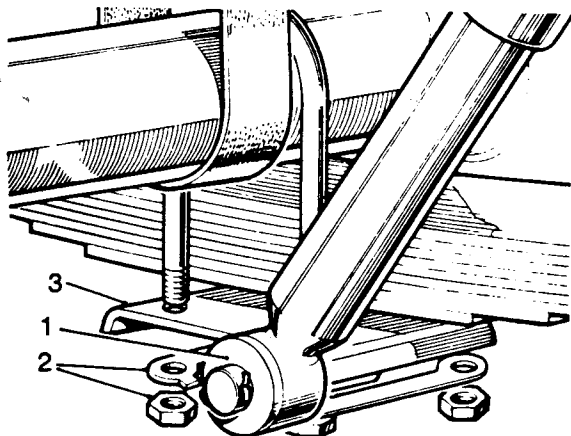

Fig I4.2
- (5) Refer to Fig I4.2. Disconnect the shock absorber (1) at the lower fixings.
- (6) Remove the fixings (2) and withdraw the spring support plate (3).